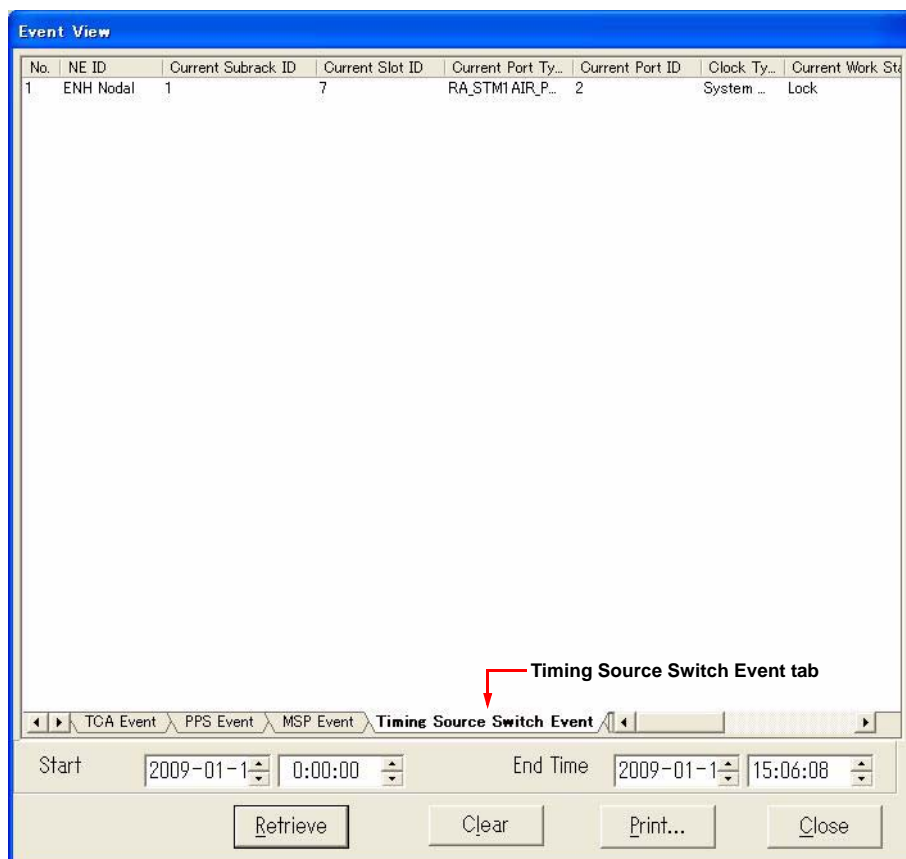

Fig. 4-7-12 Event View Dialog Box with Timing Source Switch Event Tab
- 4 Click the **Timing Source Switch Event** tab. The window shown in *Fig. 4-7-12* appears: